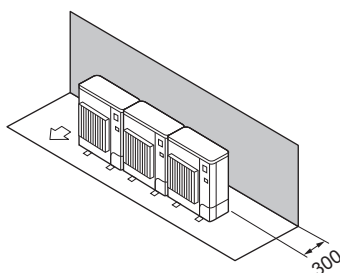

Fig. 1-11
- ① Obstacles at rear only (Fig. 1-11)